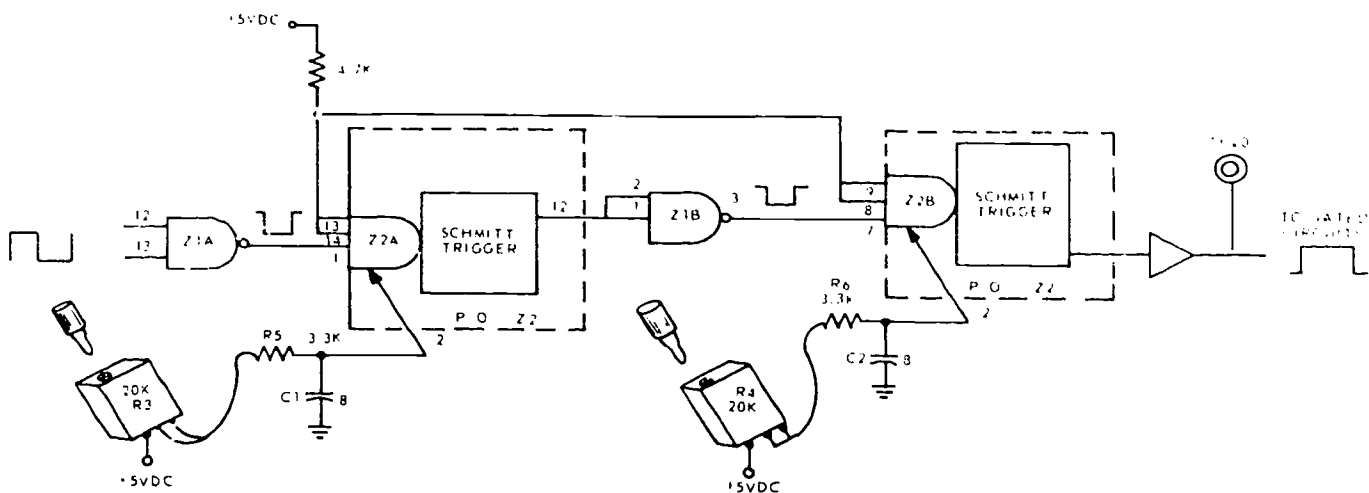

Figure 2-37. Variable pulse-width generator (Schmitt trigger).
Use of RC time constant. The pot may be installed either in the input circuit or in the output circuit. In either case, it is usually installed in the emitter or collector circuit of a transistor MV. Its primary function is to alter the RC time constant of the circuit, thereby causing a shorter or longer decay time. This allows the circuit to provide a varied or adjustable output pulse width. Refer to figure 2-37 for an example of miniature potentiometers being used with an integrated circuit. The operation of pots R3 or R4 is very similar to the uses we have already described. Their primary function is, once again, variable control; when each is used with a 3.3K resistor and an 8-picofarad capacitor, an RC network is formed. Study figure 2-37 closely during the discussion of pots used in pulse generators.
For instance, if the input waveform takes $50 \mu\text{sec}$ to rise high enough to bring the input circuit out of cutoff, the output has no reaction until the change takes place. On the other hand, if the input is rectangular and the rise time is 20 nanoseconds or faster, the output reacts almost instantaneously. Considering these factors, by examining the circuit in figure 2-37, you can see that the input AND-gate Z2A requires three high inputs on pins 1, 13, and 14, plus a high from pot R3. Since this AND-gate has pins 13 and 14 tied to +5 VDC, pin 1 causes the Schmitt trigger to start operation. R3, R5, and C1 form an RC network for pulse width control. The maximum and minimum times derived from the formula $T = RC$ reveal these two conditions: (1) a time of 20 nanoseconds with the pot effectively removed, and (2) a time of 187 nanoseconds with the full pot in the circuit. This variable component controls the conduction times of the input circuit of the Schmitt trigger; consequently, it delays the completion of the rectangular output waveform.